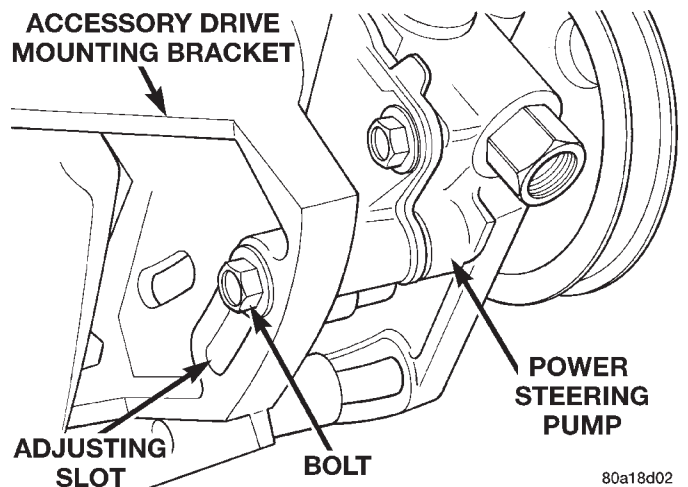
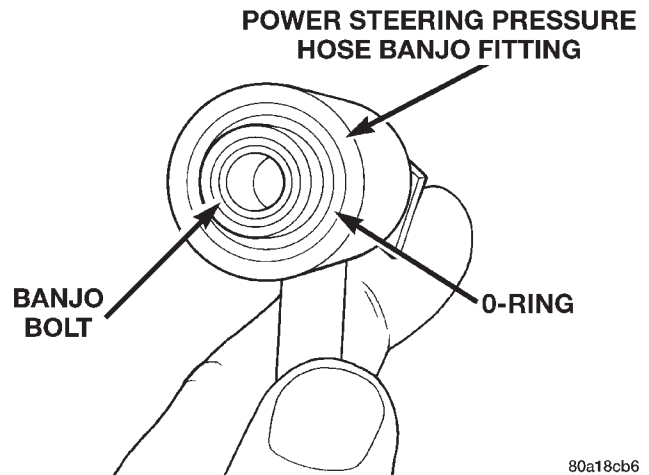

Fig. 38 Power Steering Pump Rear Mounting Bolt
Fig. 40 O-Ring Installed On Power Steering Hose Banjo Fitting
(9) Remove bolt at adjusting slot in accessory drive mounting bracket, (Fig. 38) attaching back of power steering pump to the bracket.
(3) Loosely install the bolt mounting power steering pump to its rear mounting bracket (Fig. 38).
(4) Using a lint free towel, wipe clean all open power steering hose ends, and power steering pump fittings.
(5) Install a new O-ring on the end of the power steering pressure hose bajo fitting (Fig. 40).